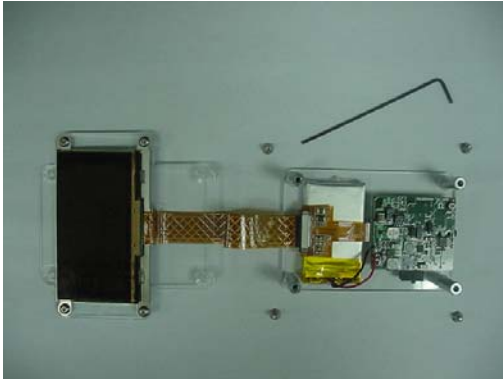
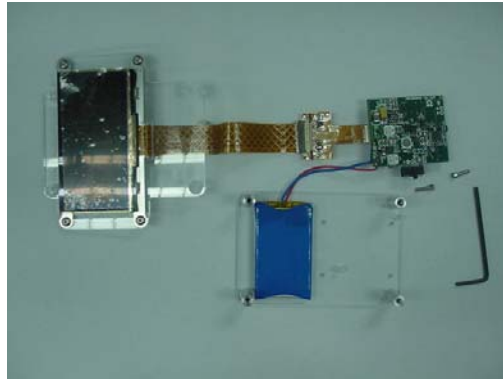

Figure 9a
Figure 9b
Use the hexagon key sizes 1.5mm to open up the front Calgary OLED display cover as shown in Figure 9a. Next, remove the Reference Design board by using hexagon key 2.0mm as shown in Figure 9b.